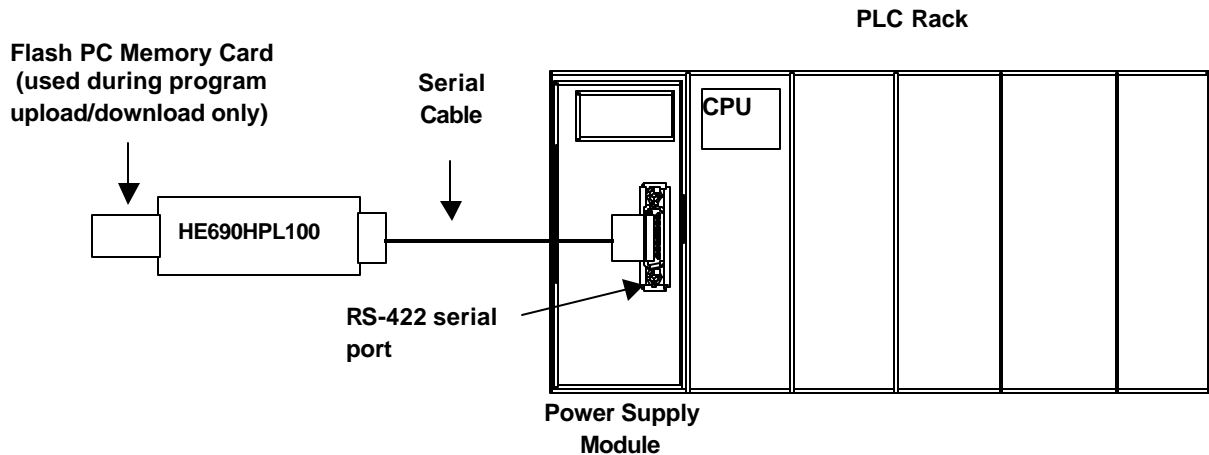

Figure 1.2 – Overview of HE690HPL100
1.2.3 Local Start/Stop of a PLC (See Figures 1.2 and 1.3) 8
1.2.2 Program Upload/Download (See Figure 1.2)
1.2.3 *Local Start/Stop of a PLC* (See Figures 1.2 and 1.3)
The HE690HPL100 allows a user to easily and conveniently start or stop a local PLC. As shown in Figure 1.2, the HE690HPL100 is connected to the PLC via an RS-422 cable. However, the Flash PC Memory Card is removed from the HE690HPL100 when starting or stopping the PLC.